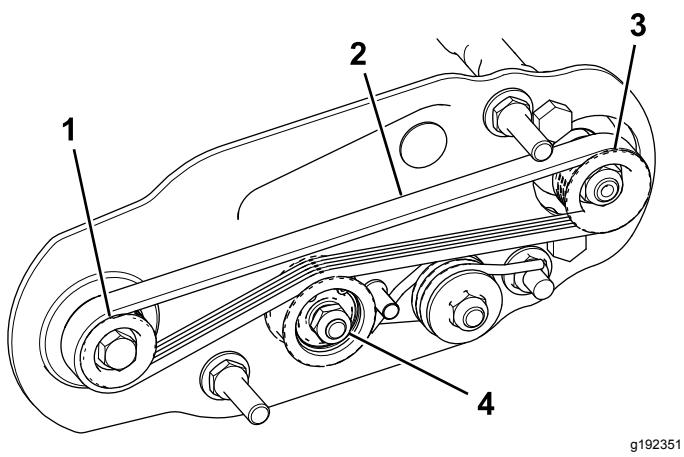

Figure 24
- Loop the belt around the drive pulley and then over the top of the idler pulley (Figure 24).
B. Start the belt on the driven pulley (Figure 24).